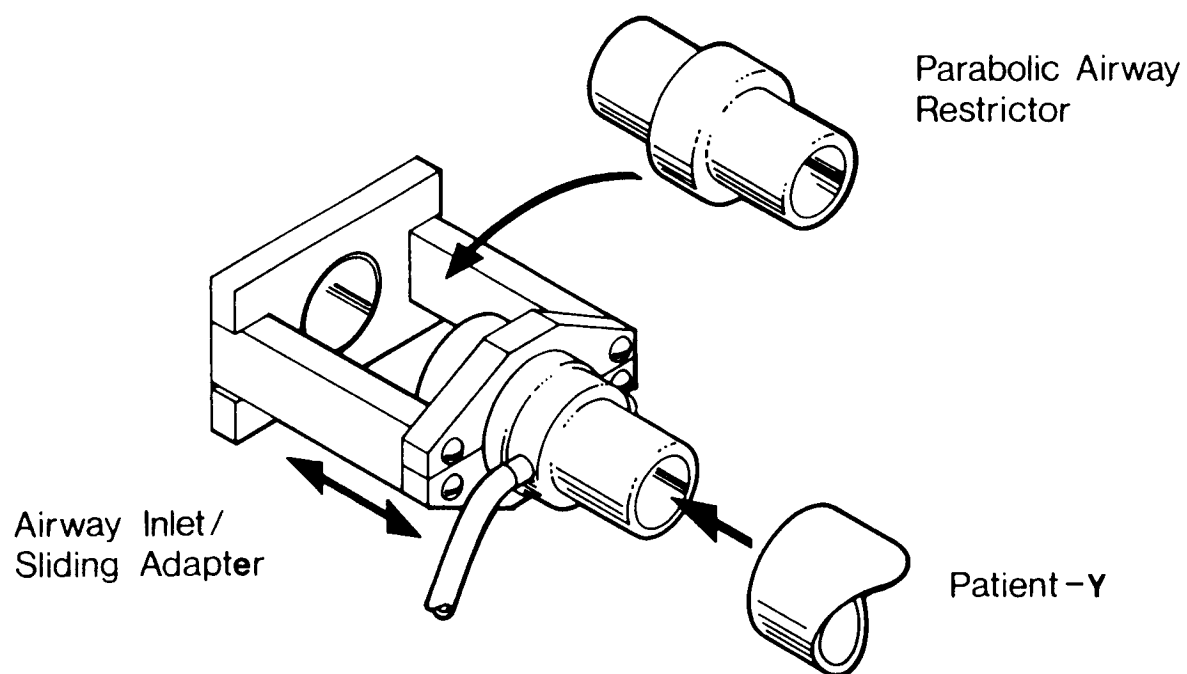

Figure 3.5-1. Restrictor and Patient-Y Connection
6. Refer to the Figure 3.5-1 for an illustration of the restrictor and patient-y connection. Refer to this illustration to perform the following Steps 7 through 10.